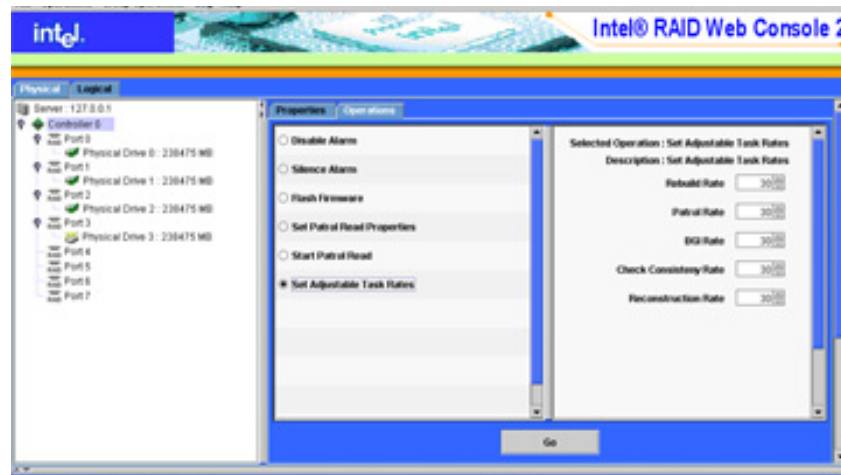

Figure 55. Set Adjustable Task Rates
2. In the right panel, select the **Operations** tab and select **Adjustable Task Rates**. The task rates appear at the right, as shown in Figure 55.